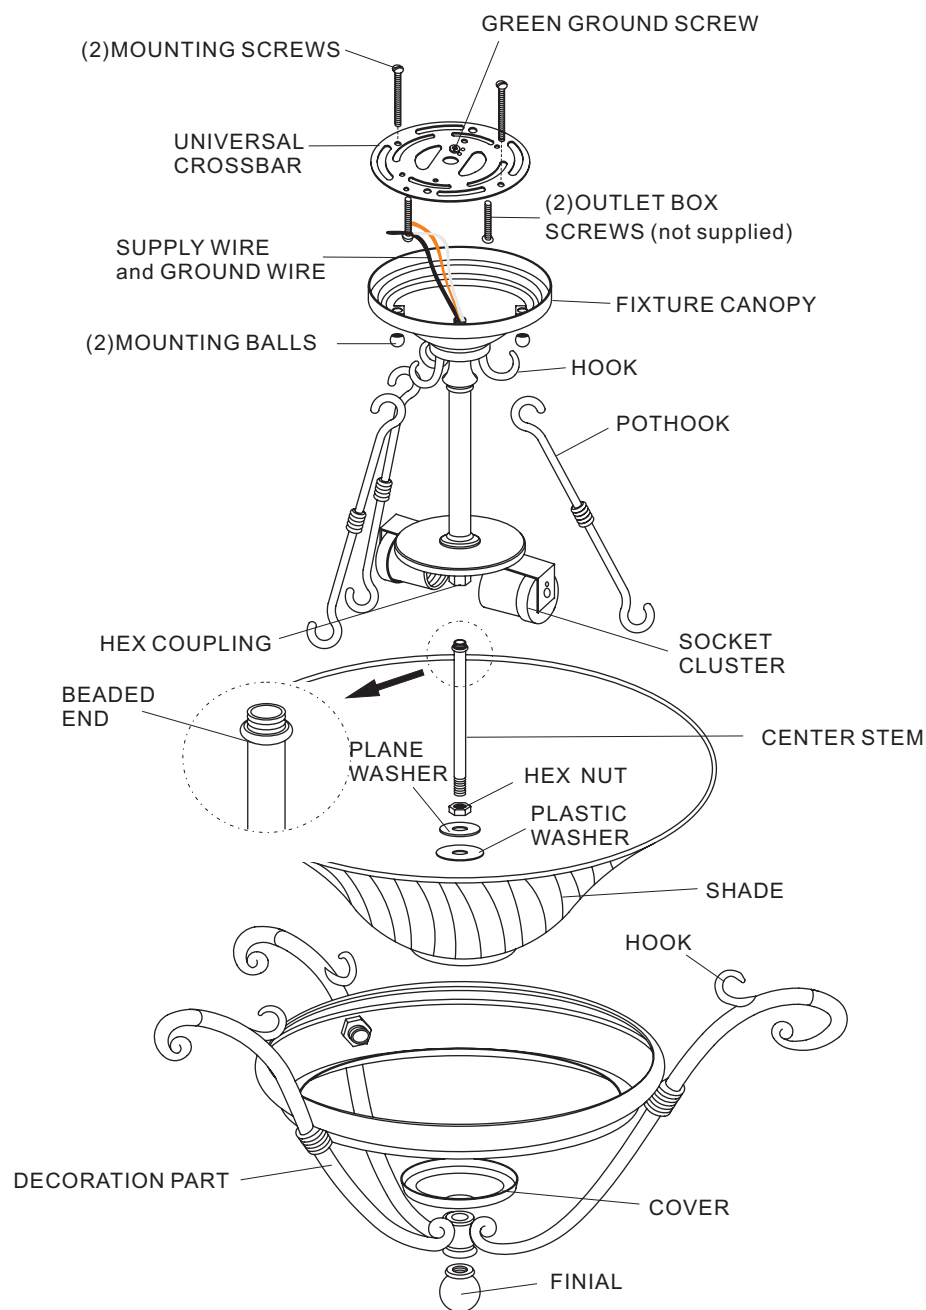

FIGURE 1
1. Before beginning installation, carefully unpack and identify all parts, referring to illustration (FIGURE 1).
4. Locate the (2) MOUNTING SCREWS and thread them into the back of the UNIVERSAL CROSSBAR, making sure that they match the holes in the FIXTURE CANOPY. Using (2) OUTLET BOX SCREWS (not supplied), fasten the UNIVERSAL CROSSBAR to the OUTLET BOX.
6. Carefully tuck all of the wiring up into the outlet box, and fit the FIXTURE CANOPY over the MOUNTING SCREWS. Secure the FIXTURE CANOPY to the ceiling with the (2) MOUNTING BALLS, making sure that the balls are fully threaded onto the MOUNTING SCREWS before tightening.